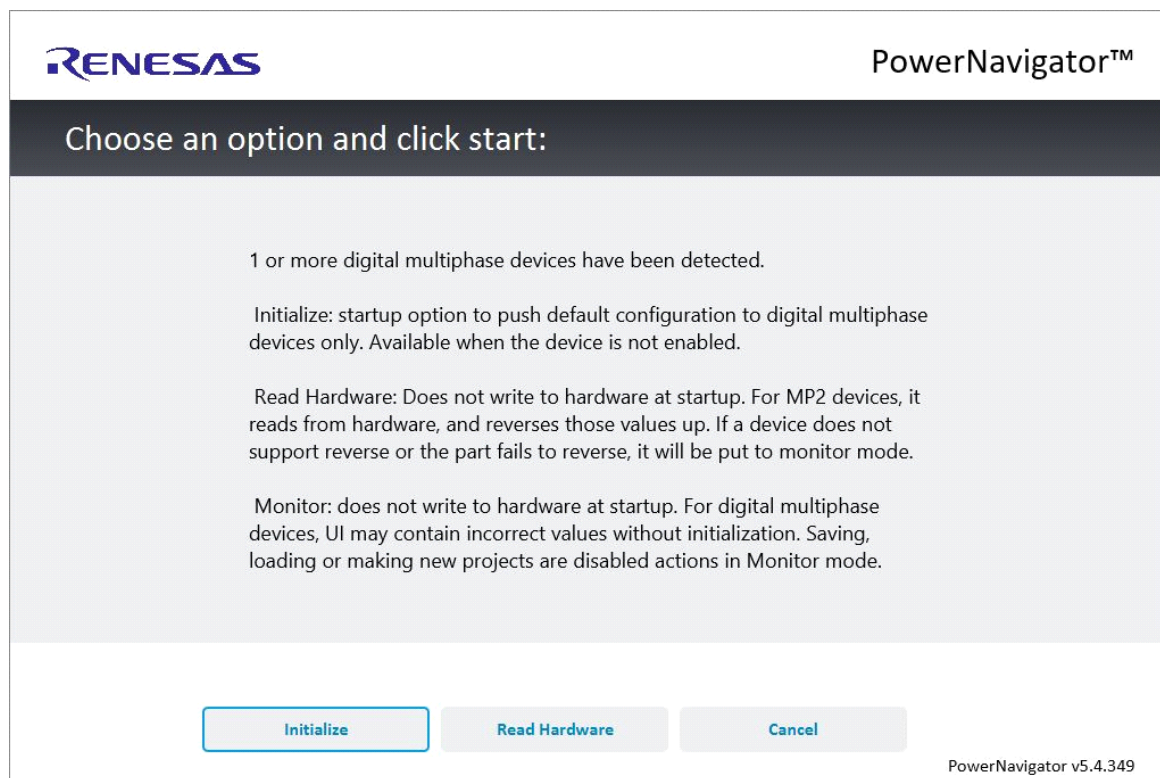
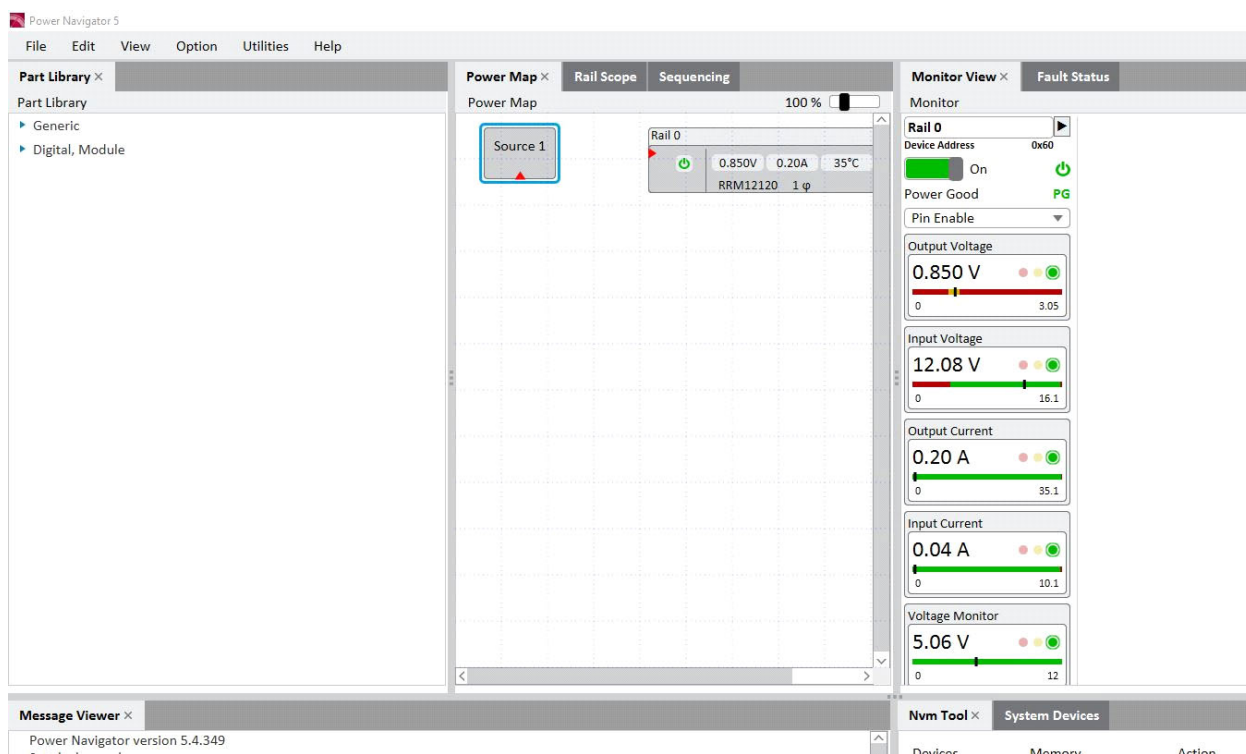

Figure 3. PowerNavigator Initialization Page
Figure 4. PowerNavigator Monitor View Page
9. Hit the **Start** button. Hit **Read Hardware** in the next screen as shown in Figure 3. A new page shown in Figure 4 appears.